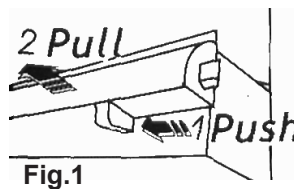

Fig.1
- 3.1 Each drawer is fitted with a catch mechanism on the right hand side of the drawer underneath the handle, to open drawer push the catch to the left to release the catch and pull the drawer open (fig.1).